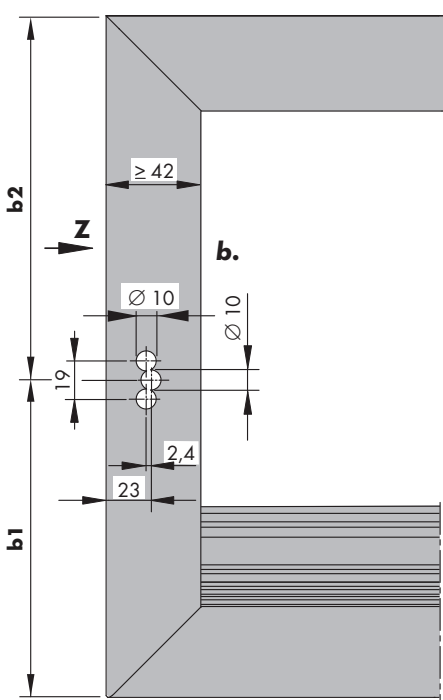

Figure 1
- b. Perform section processing for handle Globe RR (Figures 1+2).